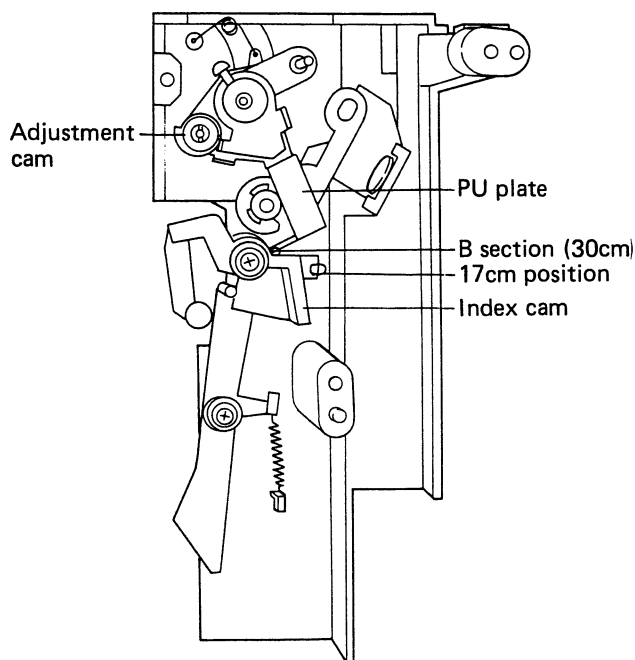

Fig. 5-14 PU plate attachment 2
The PU plate assembly should be assembled with the tonearm pipe parallel to the arm base. Both ends of the AS spring should be attached to the arm base and PU plate. Secure the plate when it is pushed all the way back to the tonearm pivot shaft. At this point, the adjustment cam should be positioned at the center of its rotation (Figure 5-14). At the same time, the (B) section of the PU plate assembled should be lined up with the 30cm lowering position of the index cam when it is secured (Figure 5-14).